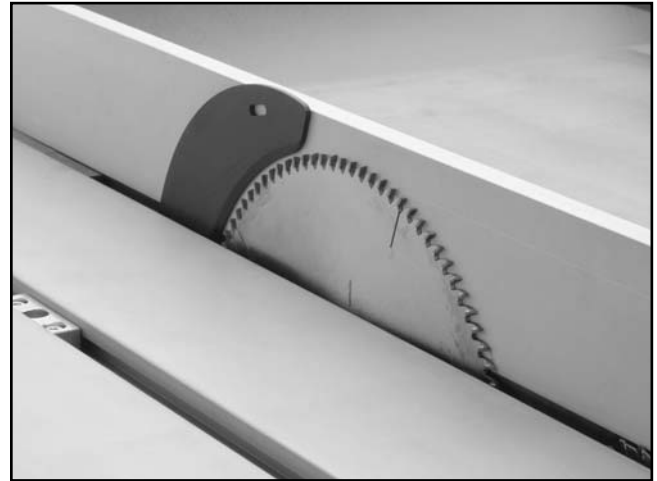

Figure 57. Rip fence aligned with blade.
5. Move the rip fence all the way against the blade as shown in **Figure 57**.